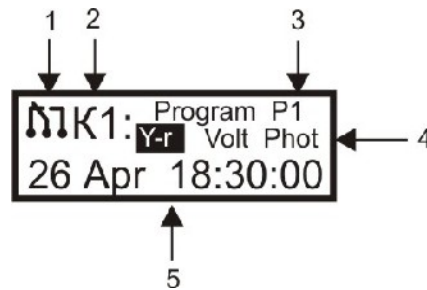

Figure 2.3 - One of the channels status window
- the basic settings and current status of K1 channel display window (fig.2.3);
The relay currently controlling the channel's contacts is highlighted. Thus, on Fig. 2.3, it is the yearly timer, and on Fig. 2.4 – the weekly timer.
timer relay, the time remaining till the event is indicated, for other types of time relays, the day and time of the next upcoming event occurrence are indicated (fig 2.3). If the photo sensor has detected the illumination intensity increase above the threshold level (and the voltage relay is either off or the circuit voltage is within set limits), then the display, accordingly, shows «L<Lthr» or «L>Lthr» with indication of the time left till the commutation moment. Similarly, if the if the voltage relay is on and the circuit voltage passes the threshold values of U_{min} or U_{max} , the display shows «U < U_{min} », «U norm» or «U > U_{max} » with indication of the time left till the contacts open (fig. 2.4), if the voltage is not within normal limits, or till the control transfer to other type relays if the voltage has returned to within set limits.